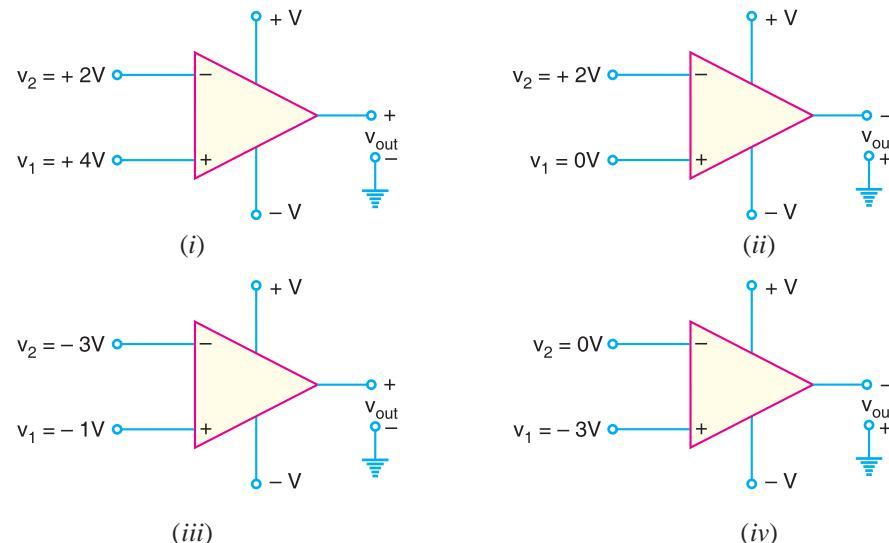

Fig. 25.41
- (i) In Fig. 25.41(i), $v_1 = +4V$ and $v_2 = +2V$ so that $v_{in} = v_1 - v_2 = (+4V) - (+2V) = 2V$. Since v_{in} is *positive*, the OP-amp output voltage will be *positive*.
- (ii) In Fig. 25.41 (ii), $v_1 = 0V$ and $v_2 = +2V$ so that $v_{in} = v_1 - v_2 = (0V) - (+2V) = -2V$. Since v_{in} is *negative*, the OP-amp output voltage will be *negative*.
- (iii) In Fig. 25.41 (iii), $v_1 = -1V$ and $v_2 = -3V$ so that $v_{in} = v_1 - v_2 = (-1V) - (-3V) = 2V$. Clearly, the OP-amp output voltage will be *positive*.
- (iv) In Fig. 25.41 (iv), $v_1 = -3V$ and $v_2 = 0V$ so that $v_{in} = v_1 - v_2 = (-3V) - (0V) = -3V$. Therefore, the OP-amp output voltage will be *negative*.